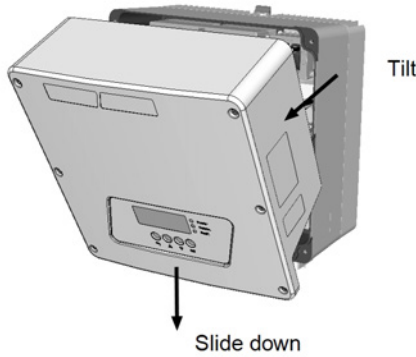

Figure 23: Removing the Inverter Cover
4. Open the inverter cover (see Figure 23):